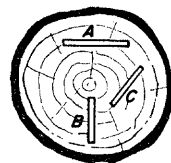

Fig. 13
The logs are kiln-dried and cut, and depending how the cut comes, the characteristics of a sheet of wood will vary (Fig. 13). A tangent-cut sheet (A) will have a wide grain pattern and will